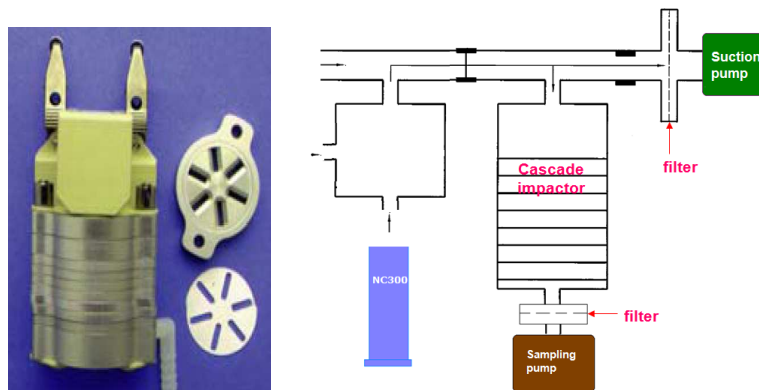

Fig 1. Cascade Impactor and Testing setup
- 4.1.3 Connect suction and sampling pumps to the cascade impactor testing module as see in the Fig 1.
- 4.1.4 Put the cup into NC300 and connect the nebulizer cup outlet to cascade impactor inlet.(Fig 1.)